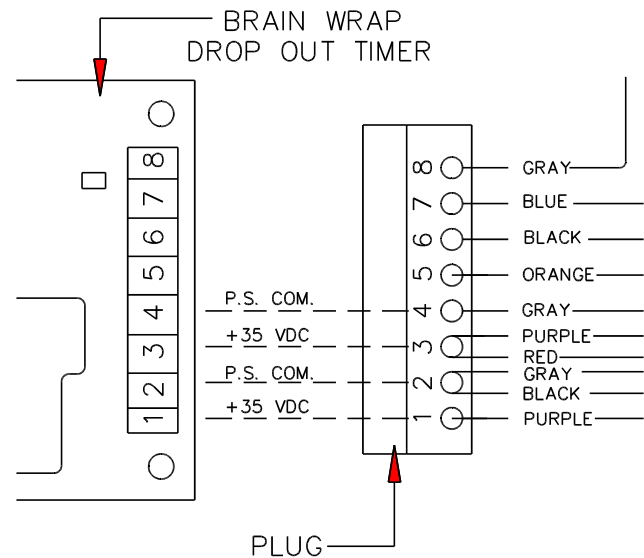

Figure 17
1. Disconnect the 35vdc purple wire from terminal 1 and the purple and red wires from terminal 3 and connect together. (A wire nut will work nicely. See Figure 17).